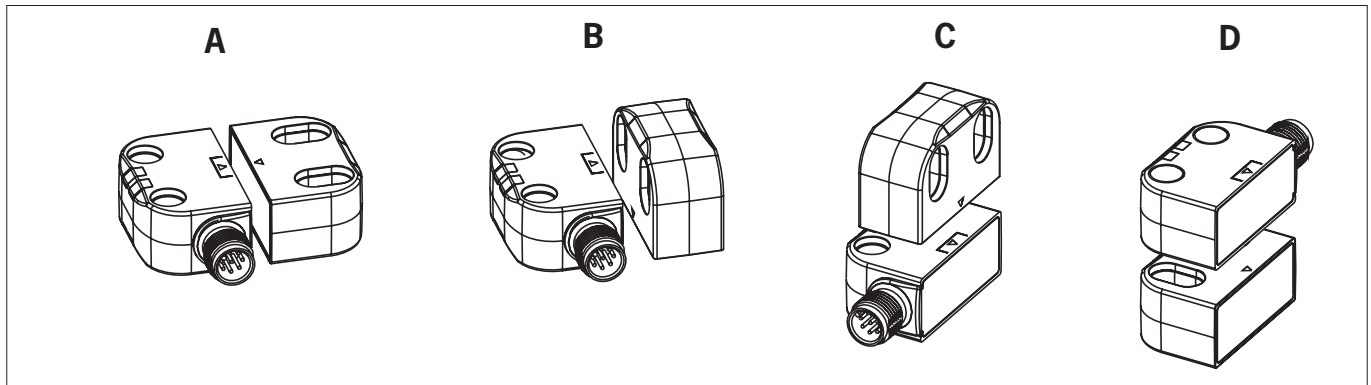
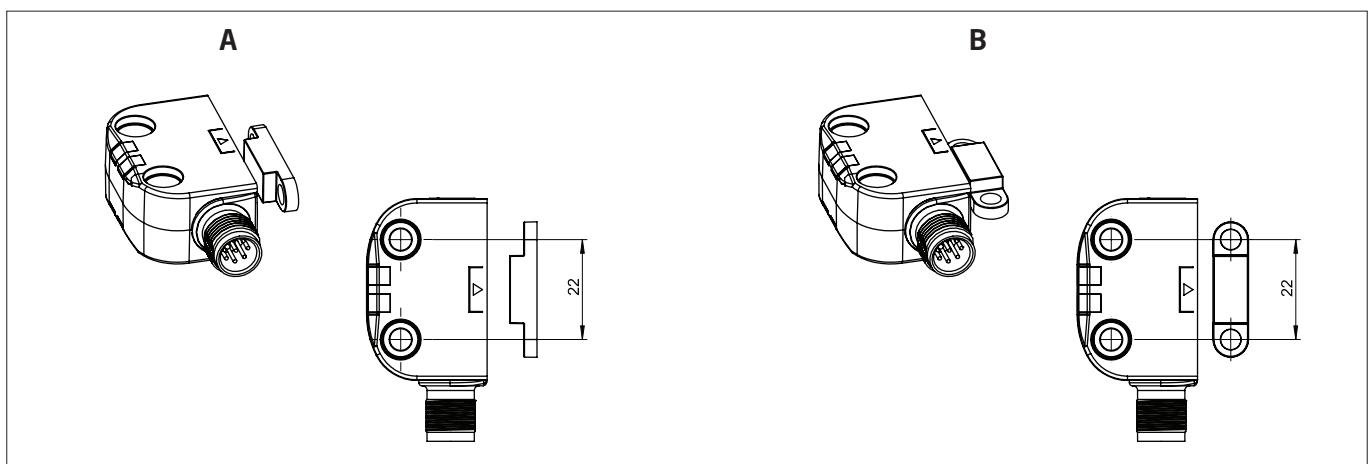

Fig. 1: Permissible installation positions for actuators CES-A-BTN-C07-... and A-FLX-C07-04-...: observe direction of arrow on the device.
Fig. 2: Permissible installation positions for actuators A-C11-01-... and A-FLX-C11-05-...
- › Observe permissible installation positions (see Fig. 1 and Fig. 2).